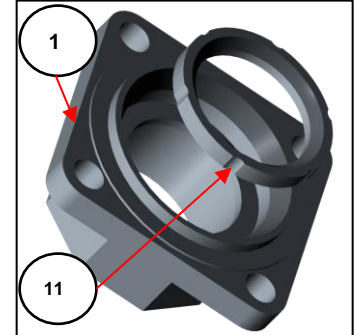

Figure 4-28
- 4.4.14 Wipe down the second ball seat (item 11) and then place it into the seat of the end cap (item 1) with the flat side downward. Be very careful to avoid damaging the seat during installation. (Figure 4-28)